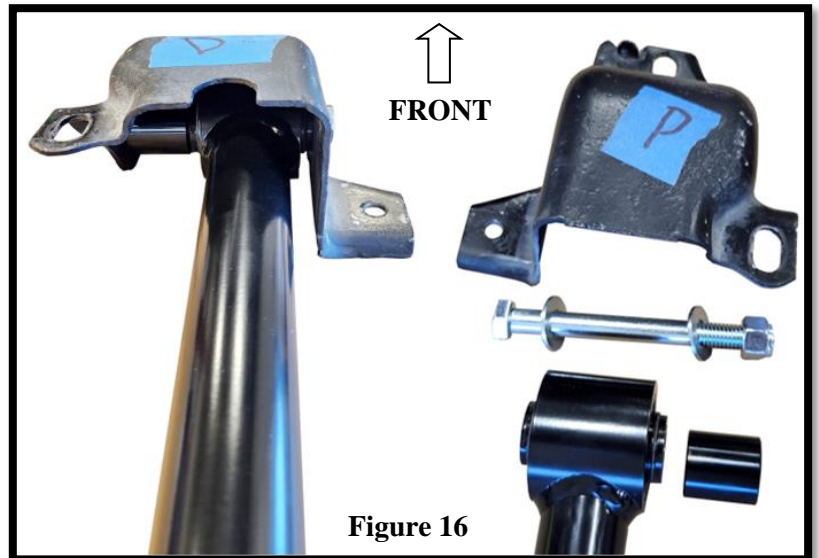

Figure 16
9. Re-using the front leaf spring brackets from the vehicle, bolt the fixed bushing end of the QA1 lower trailing arms to the mounts using one 1.3" wide black anodized spacer on the outboard side of the mount. **(Figure 16)** This connection can only be accomplished with the leaf brackets removed from the car. Secure using 1/2"x 5" bolt with two washers and one nyloc nut per side. This connection should be final torqued at ride height to 75 lb. ft.